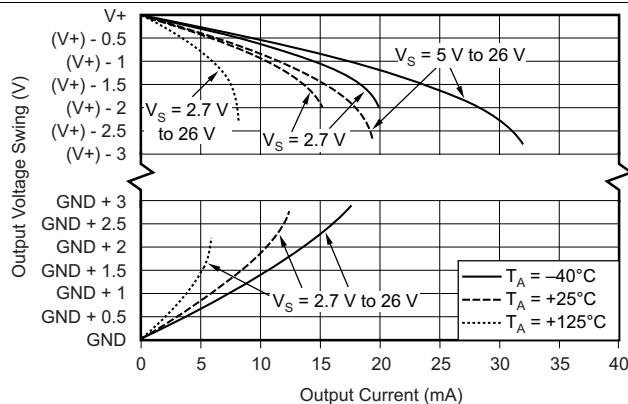

Figure 10. Output Voltage Swing vs Output Current
(1) Full range $T_A = -40^\circ\text{C to } 125^\circ\text{C}$.
(2) RTI = referred to input.
(3) Not production tested.
(4) See Figure 10, Output Voltage Swing vs Output Current, in the *Typical Characteristics* section.